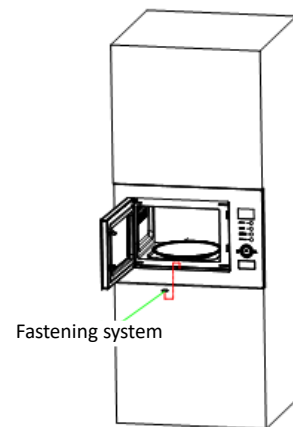

Fig. 6
f) Install the outline border in screw hole, as shown in Fig. 6